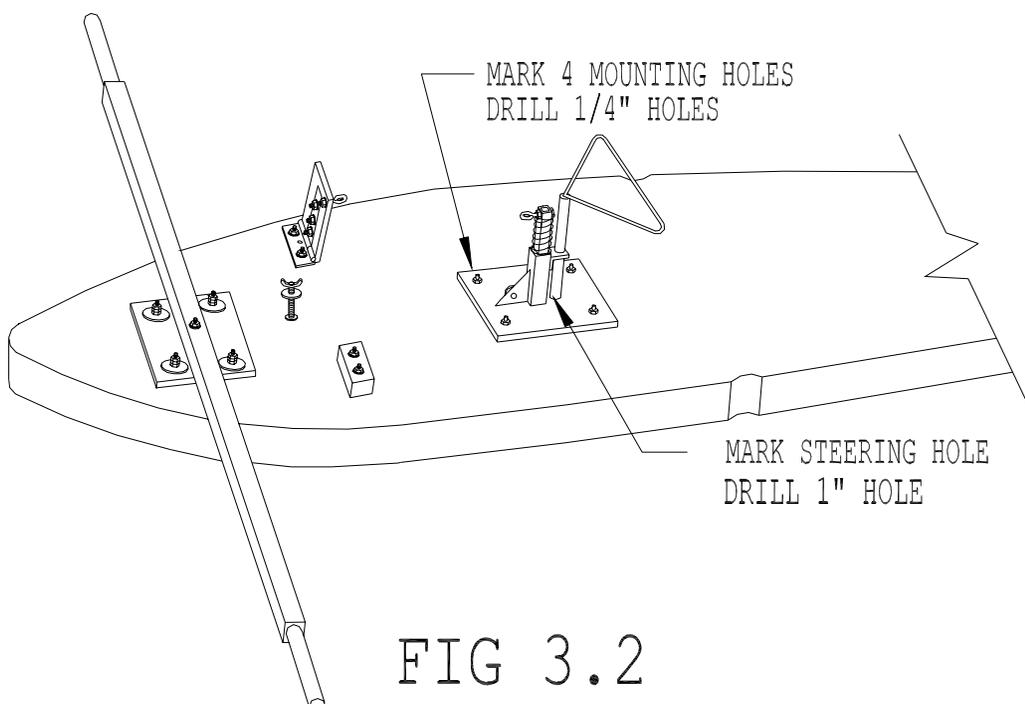
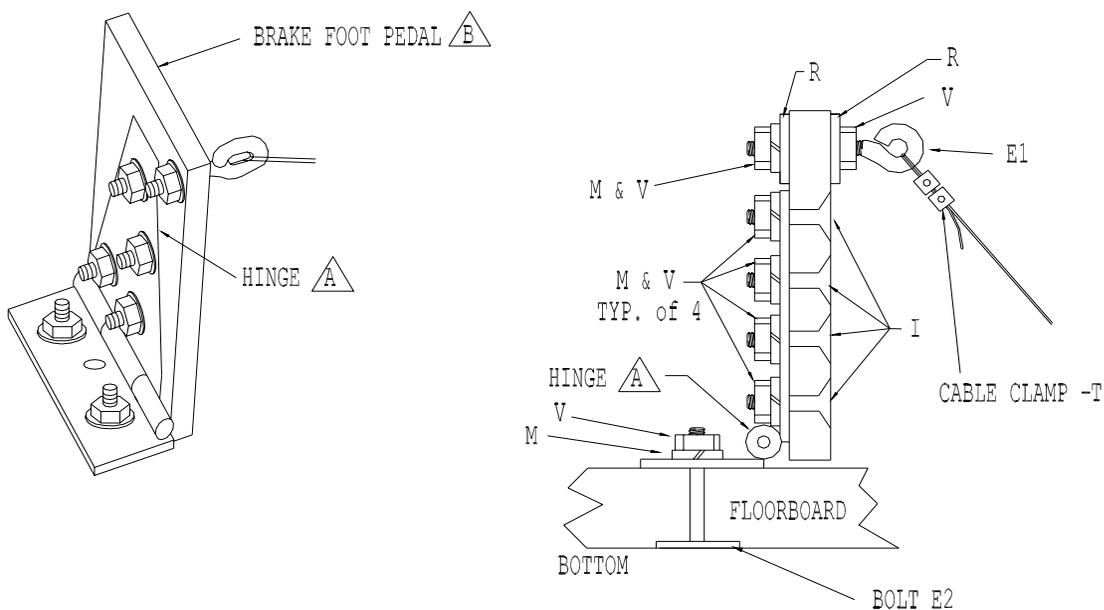

FIG 3.2
FIG. 5.0
- d. Drill (4) four 1/4 inch holes as shown in Fig. 3.2, 5.1, & 5.2.
- i. Install the Foot Brace with (2) E2 bolts, lock washer M & nut V.
- j. Install the brake pedal and hinge as shown in figure 5.0.
- Use Screws I, Lock washers M, and Nuts V to install Brake Foot Pedal B to Hinge A as in Fig. 5.0
- Insert Eyebolt E1 in the Brake Foot Pedal as in Fig. 5.0